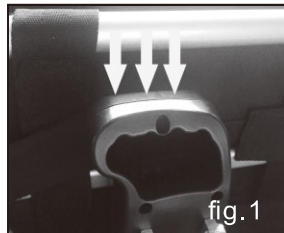
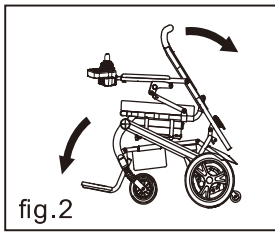

fig.1
fig.2
5.1.1 Take out the wheelchair from carton and put on ground. Firstly open the pedals forward, then insert the battery pack to the bottom of battery track(fig.1). Unfold the wheelchair by pulling the backrest with one hand and holding the bottom pole with another hand (Fig2). When you hear "click", it indicates that the latch is automatically locked and the wheelchair is ready to be used.